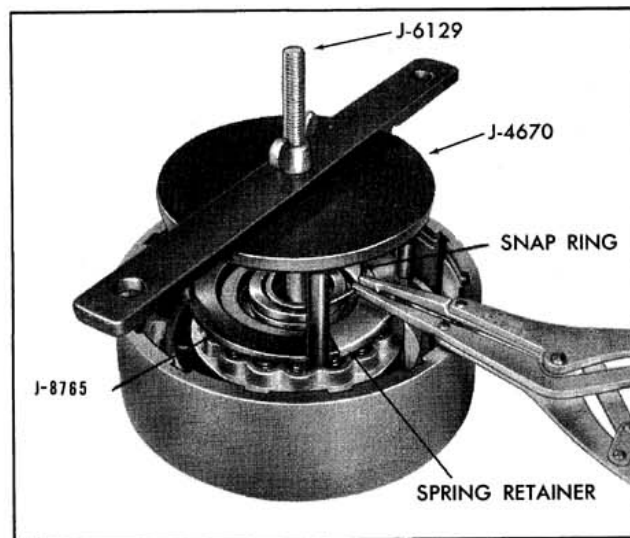

Fig. 6-130 Removing Snap Ring
6. Using J-4670 Clutch Spring Compressor, with Adapters J-6129 and J-8765, compress the spring retainer and remove the snap ring. (Fig. 6-130)